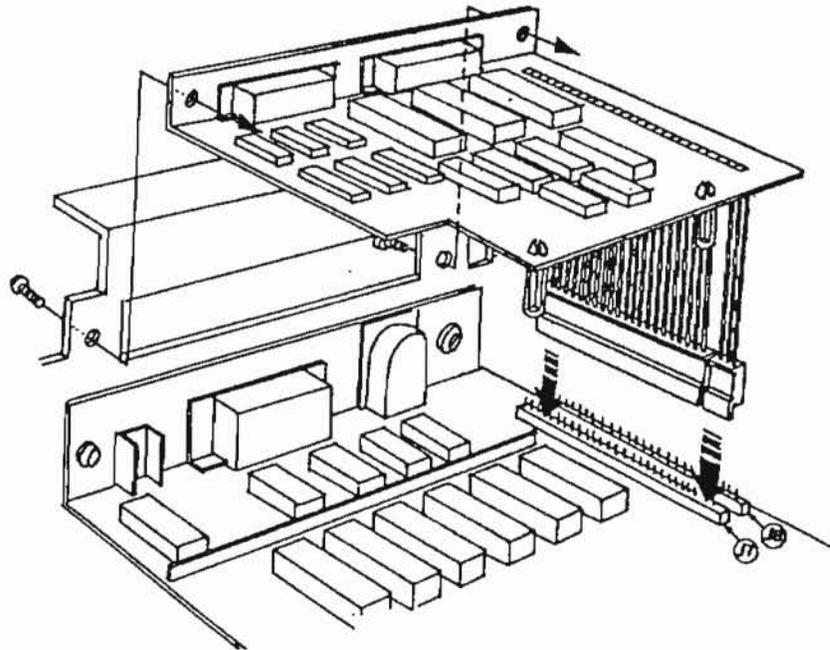
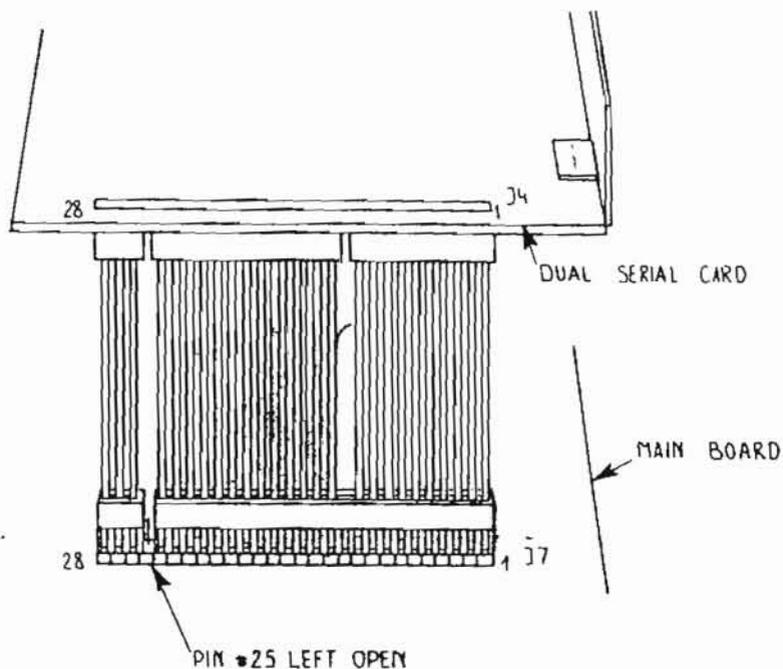

FIGURE 6
FIGURE 7
Step 8: Position the dual RS232C serial card in front of the expansion opening as shown in Figure 6. Connect the cable attached to the card to connector J7 on the main board of the computer. As shown in Figure 7, pin number 25 on connector J7 is exposed when the cable is connected.